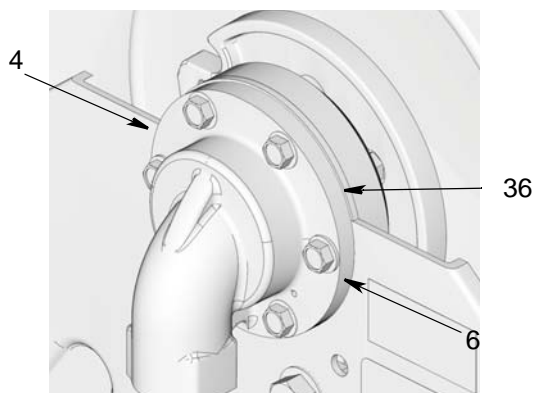

FIG. 16
- a. Medium Pressure Models ONLY: On the inlet side, remove bolts (4), inlet (6) and shim (36) (FIG. 16).